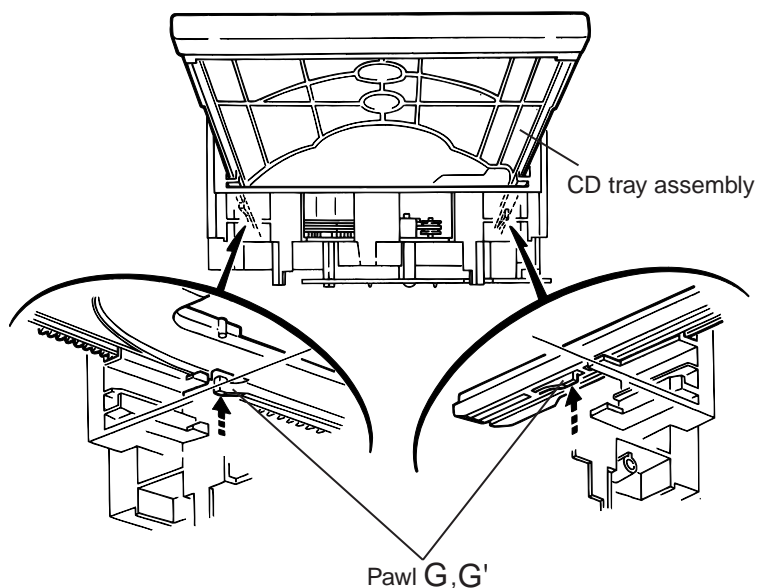

Fig.9
15. At the position where the CD tray assembly has stopped, pull out the CD tray assembly while pressing the two pawls "G and G'" on the back side of CD tray assembly(See Fig.9). In this case, it is easy to pull out the assembly when it is pulled out first from the stage CD tray assembly.